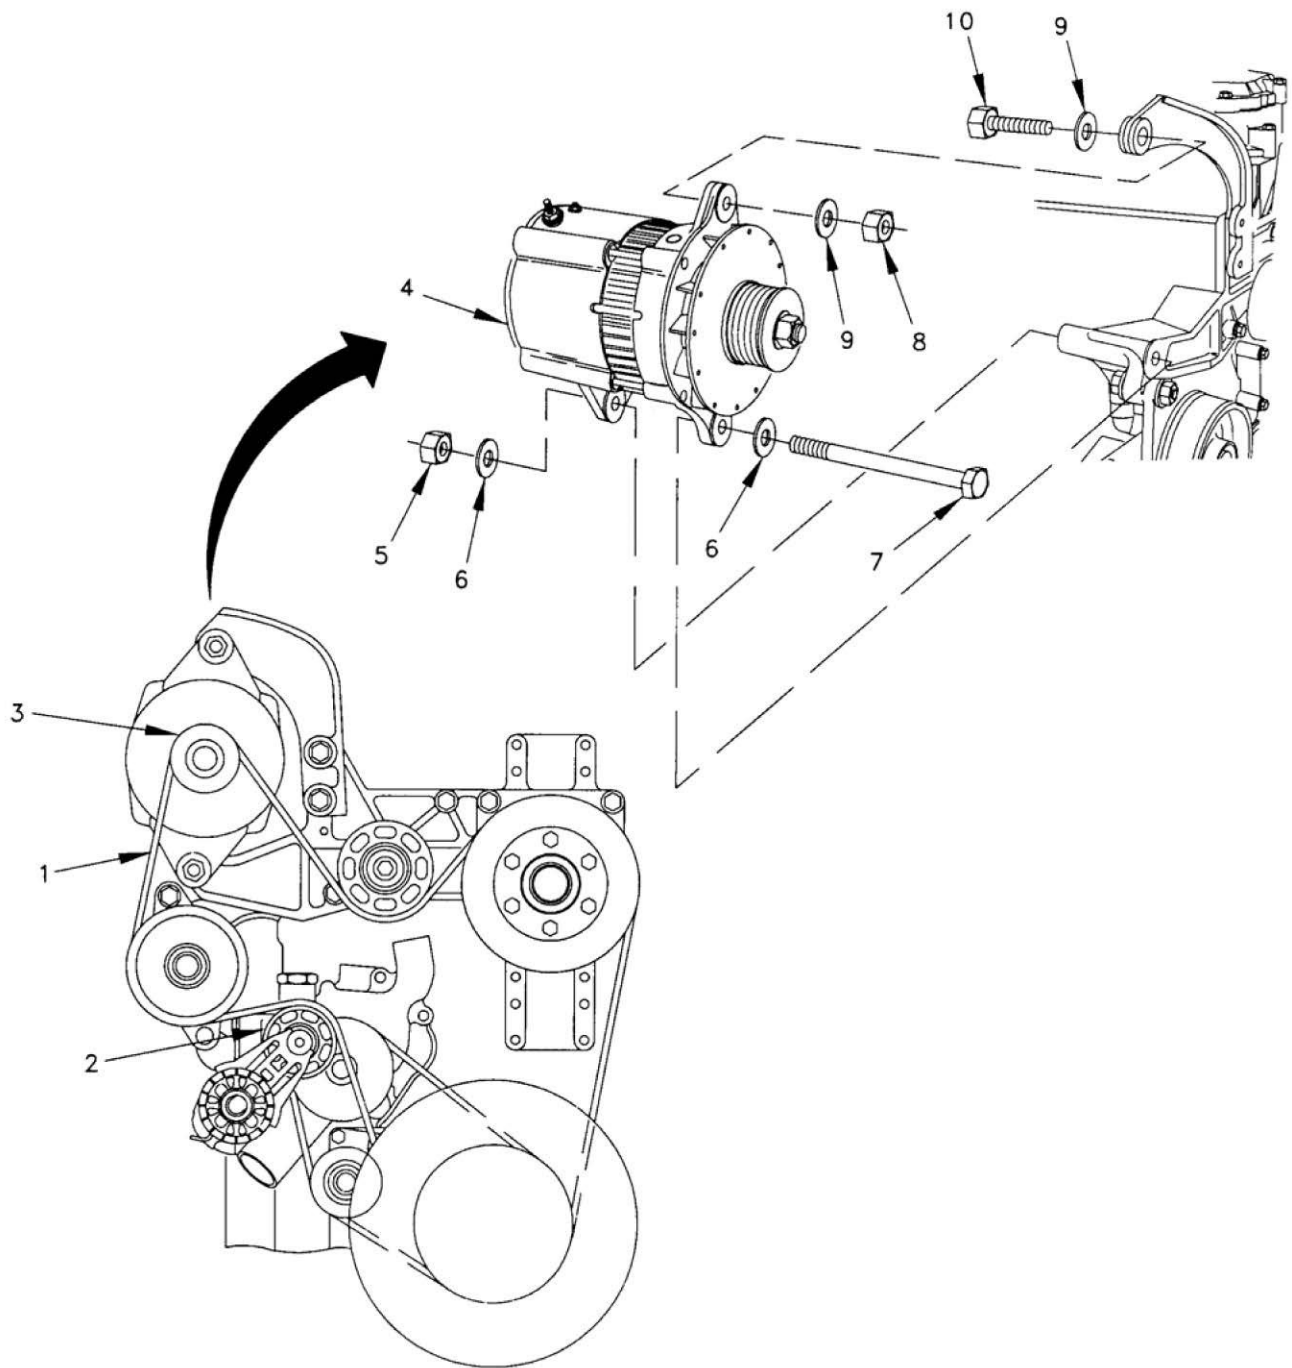

Figure 1. Alternator.
Note routing of alternator belt (Figure 1, Item 1).
3. Place wrench on tensioner pulley (Figure 1, Item 2) and use to rotate tensioner pulley clockwise (CW) sufficiently to relieve tension on alternator belt (Figure 1, Item 1) and slip belt off alternator pulley (Figure 1, Item 3). Allow tensioner pulley (Figure 1, Item 2) to rotate slowly back into place.
4. Tag and disconnect wiring from alternator (Figure 1, Item 4).
5. Remove nut (Figure 1, Item 5), two washers (Figure 1, Item 6), bolt (Figure 1, Item 7), nut (Figure 1, Item 8), two washers (Figure 1, Item 9), bolt (Figure 1, Item 10), and alternator (Figure 1, Item 4).
1. Install alternator (Figure 1, Item 4) and secure with bolt (Figure 1, Item 10), two washers (Figure 1, Item 9), nut (Figure 1, Item 8), bolt (Figure 1, Item 7), two washers (Figure 1, Item 6), and nut (Figure 1, Item 5). Tighten nuts.
2. Connect wiring to alternator (Figure 1, Item 4).
3. Place wrench on tensioner pulley (Figure 1, Item 2) and use to rotate tensioner pulley clockwise (CW) sufficiently to allow alternator belt (Figure 1, Item 1) to be slipped on alternator pulley (Figure 1, Item 3). Allow tensioner pulley (Figure 1, Item 2) to rotate slowly back into place.
4. Check alternator belt (Figure 1, Item 1) for correct routing and to be sure the belt is firmly seated in all pulley grooves.